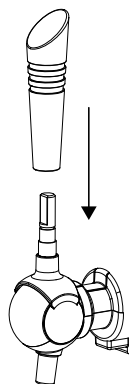

Fig.1
2. Attach the tap handle to the tap. Make sure that the handle is firmly attached (Fig. 1).